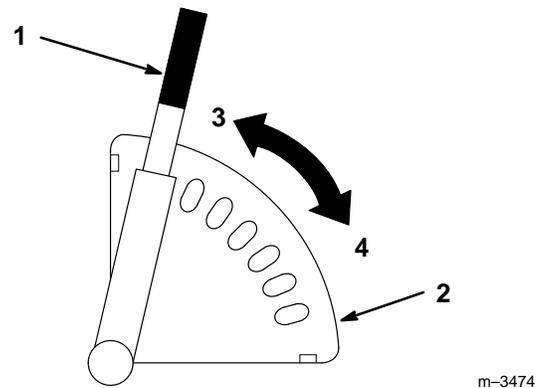

Figure 14
1. Start the tractor, apply the parking brake, and raise the deck. Get off the tractor. Pull the height-of-cut lever out to disengage it from the height-of-cut plate. Adjust the height of cut to the desired level. Release the lever inward to lock into the height-of-cut plate (Fig. 14).